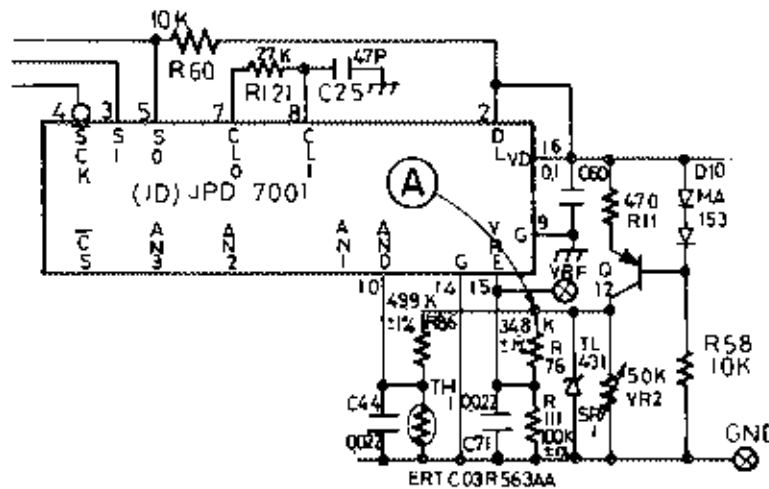

Fig. 2-91 Temperature Detector Circuit
Fig. 2-91 shows the temperature detector circuit, including the sensing section. The reference voltage (VRF) is adjusted to +2.0V by VR2. Thus, the potential at point (A) is given as follows, because of the voltage divider circuit consisting of R76 and R111: